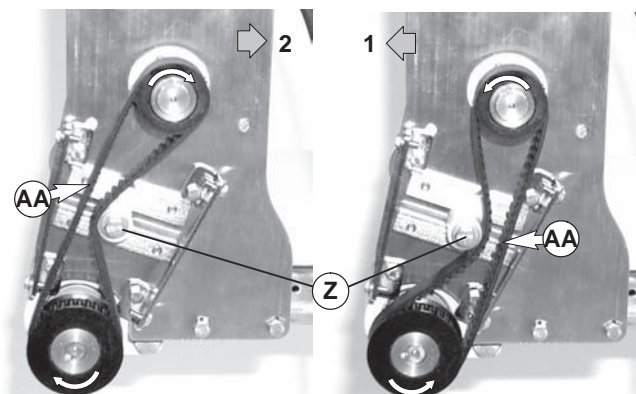

Figure 22
5. Depending on conveyor belt travel (direction 1 or 2 of Figure 22), locate timing belt tensioner (Z) as shown. Tension timing belt to obtain 0.125" (3 mm) deflection for 1.0 lb (456 grams) of force at timing belt mid-point (AA). Tighten tensioner screw to 92 in-lb (10.4 Nm).